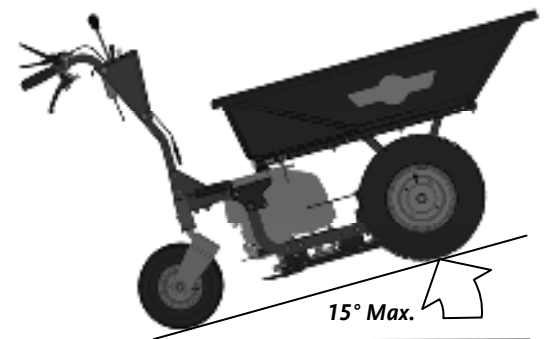

Figure 34
- Never operate the DR POWERWAGON on slopes greater than 15 degrees (**Figure 34**). This is for safety and proper Engine operation. Doing so could deprive the Engine of oil and cause it to overheat resulting in component damage.